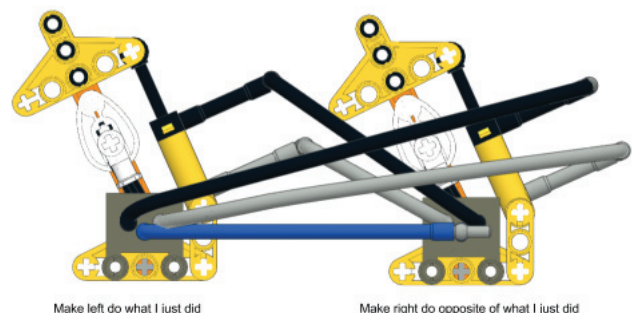
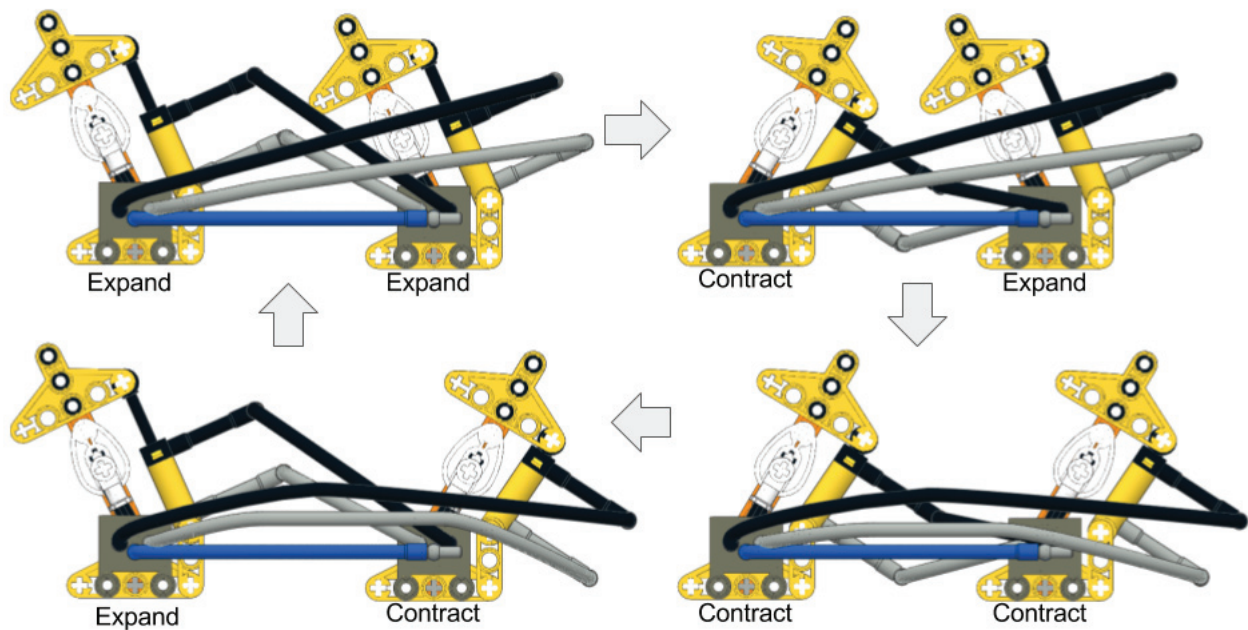
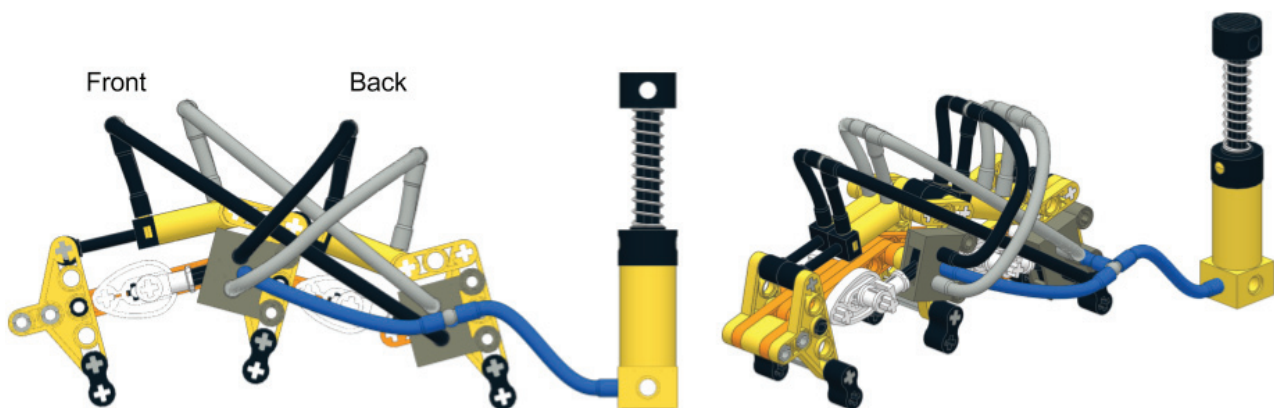

Figure 6 - Timing circuit
Figure 7 - Four states of engine
Figure 8 - inchworm
**Figure 6** shows an engine-like circuit using our small piston/switch linkage. The left linkage’s switch outputs make the right piston change to match the left piston’s shape. The right linkage’s switch outputs make the left piston change to the opposite of the right piston’s shape.
Figure 7 shows the four states of the Figure 6 circuit.
If we mechanically hook these two linkages together, we can make what I call an inchworm, as seen in **Figure 8**. The base of the front linkage becomes the top of the back linkage. Also, I added 1x2 rubber links as feet. The inchworm crawls forwards as the linkages go through the four stages shown in Figure 7.